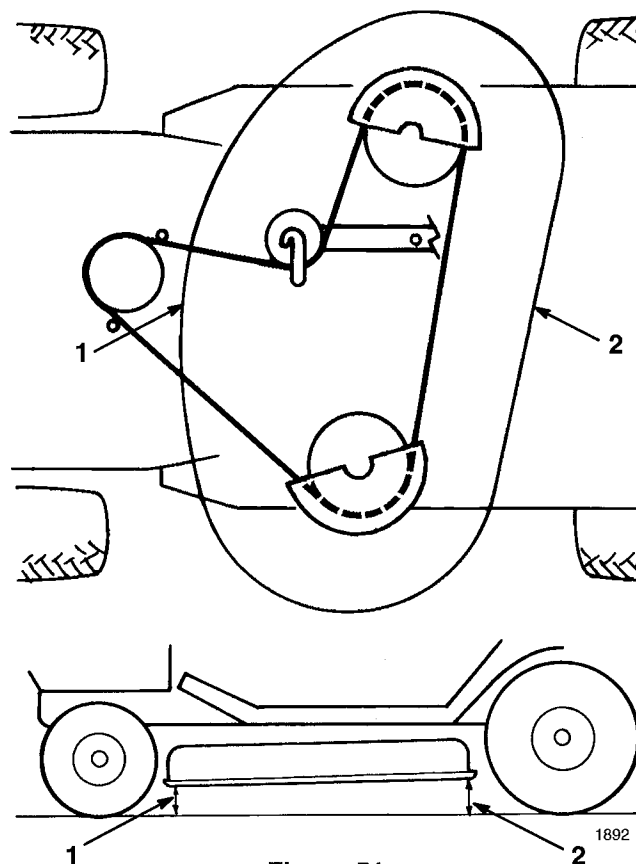

Figure 51
4. Check the front to rear slope by measuring between the bottom of the mower (front center and rear center) and the flat surface (Fig. 51). If the front of the mower is more than 3/16" (4.762mm) lower than the rear of the mower, an adjustment is required.